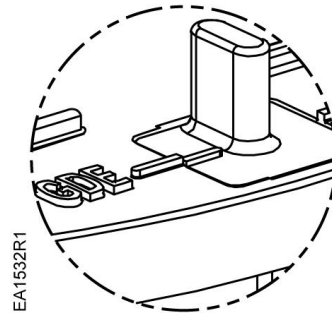

Figure 4. Actuator Designation.
3. Ensure that the anti-rotation bracket is securely snapped into position with the indicator line pointing towards the side of the slot in the bracket marked with the correct actuator designator. See Figure 4.